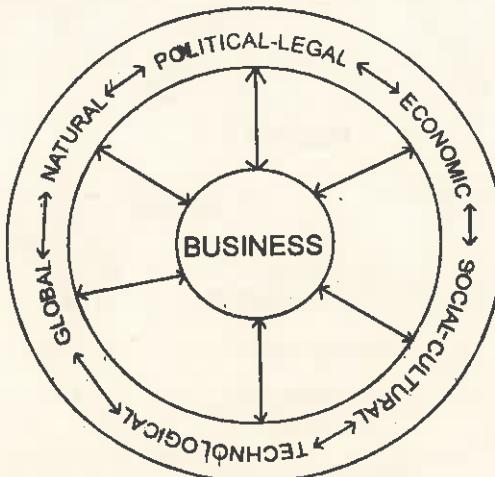

Fig. 37.1 Relationship between business firm and its environment
Refer. Fig. 37.1
- (1) There is symbiotic *relationship* (Fig. 37.1) between business and its environment and among the environmental factors.